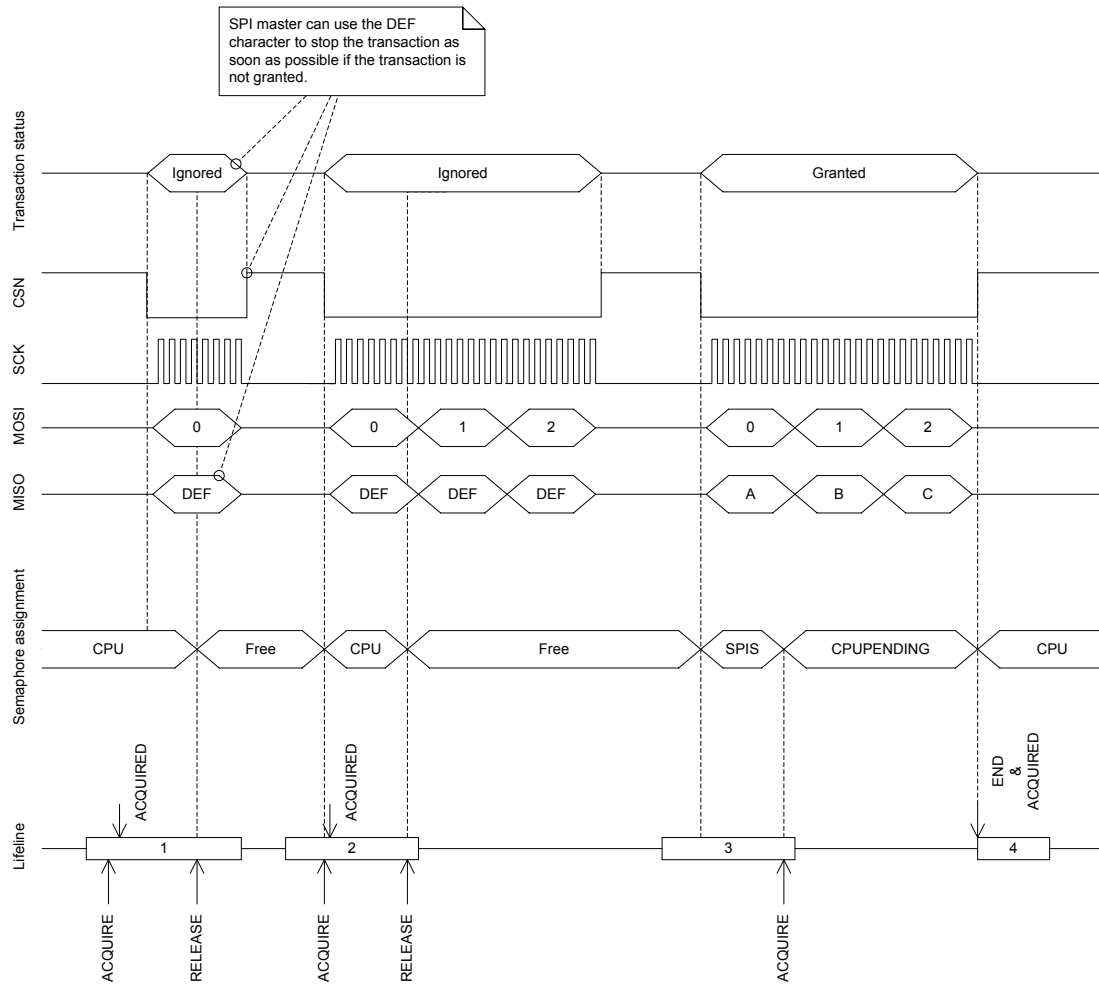

Figure 70: SPI transaction when shortcut between END and ACQUIRE is enabled
See Figure 70: SPI transaction when shortcut between END and ACQUIRE is enabled on page 283.
Before the CPU can safely update the RXD.PTR and TXD.PTR pointers it must first acquire the SPI semaphore. The CPU can acquire the semaphore by triggering the ACQUIRE task and then receiving the ACQUIRED event. When the CPU has updated the RXD.PTR and TXD.PTR pointers the CPU must release the semaphore before the SPI slave will be able to acquire it. The CPU releases the semaphore by triggering the RELEASE task. This is illustrated in Figure 70: SPI transaction when shortcut between END and ACQUIRE is enabled on page 283. Triggering the RELEASE task when the semaphore is not granted to the CPU will have no effect.
MOSI will be discarded, and the DEF (default) character will be clocked out on the MISO line throughout the whole transaction. This will also be the case even if the semaphore is released by the CPU during the transaction. In case of a race condition where the CPU and the SPI slave try to acquire the semaphore at the same time, as illustrated in lifeline item 2 in Figure 70: SPI transaction when shortcut between END and ACQUIRE is enabled on page 283, the semaphore will be granted to the CPU.